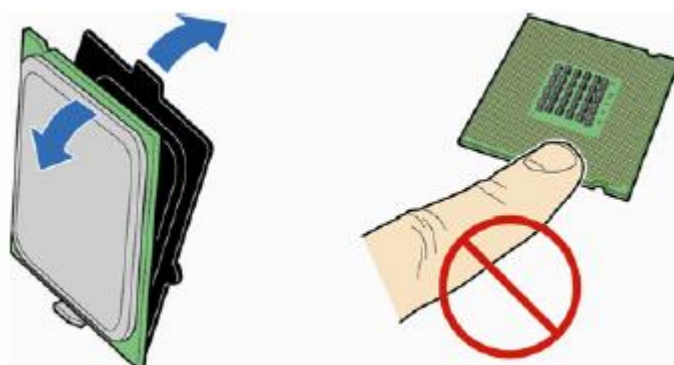

Figure 15: Remove the processor from the protective cover
3. Remove the processor from its protective cover. Hold the processor only at the edges, being careful not to touch the bottom of the processor (see Figure 15).